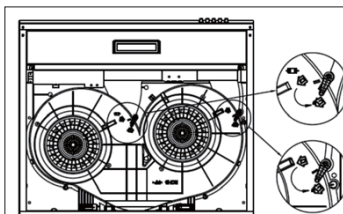

Fig. 6
Operating mode setting (Fig. 6 & 6.1)
- For **ducted mode**, slide the lever to position as shown (Fig. 6)